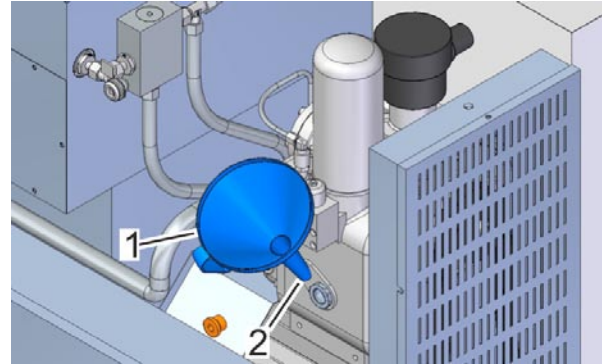

Fig. 30: Filler pluge
5. Use a funnel (Fig. 30/1) to top up the oil to the filling edge on the filler plug (Fig. 30/3).
7. Insert the screw plug (Fig. 30/2) and tighten.